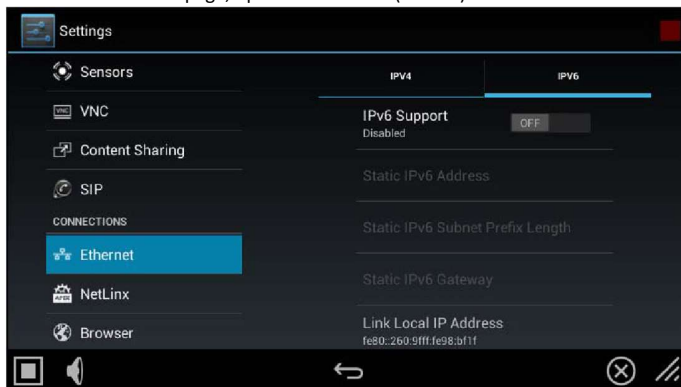

FIG. 57 Ethernet page - IPv6 tab
1. In the Ethernet page, open the IPv6 tab (FIG. 57):